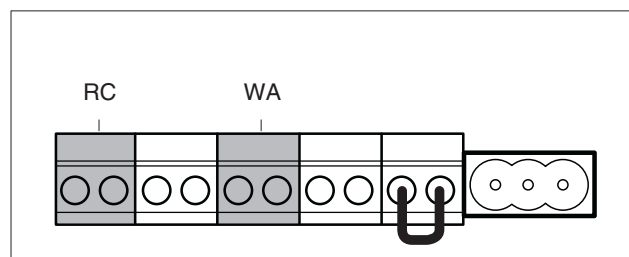

fig. 42 Terminal strip – RC room controller and potential-free heat demand
- It is not possible to connect more than one room controller (fig. 42).